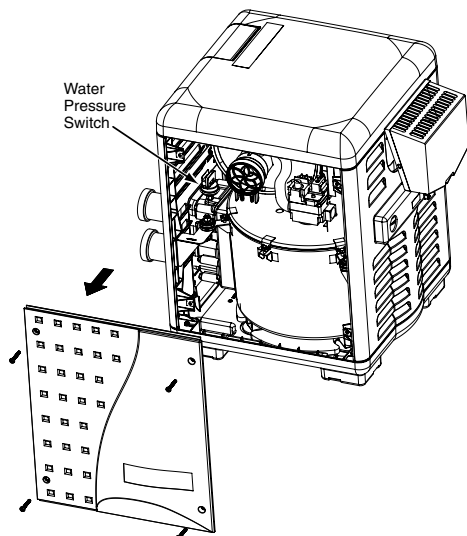

Figure 27.
1. Remove the four corner wing nuts that secure the top panel. Lift the top panel upward to remove the top panel. Note: If needed, remove the wires from the control board if the top is removed completely. See Figure 27.